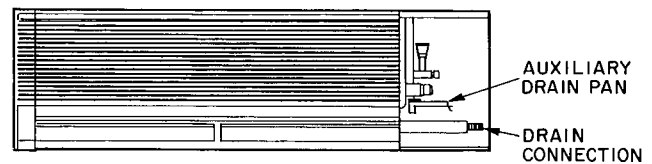

Fig. 11 – Drain Connection
1. Connect drain line by inserting either a 1/2 or 3/4-in. rigid PVC pipe over the drain connection. Refer to Fig. 11.